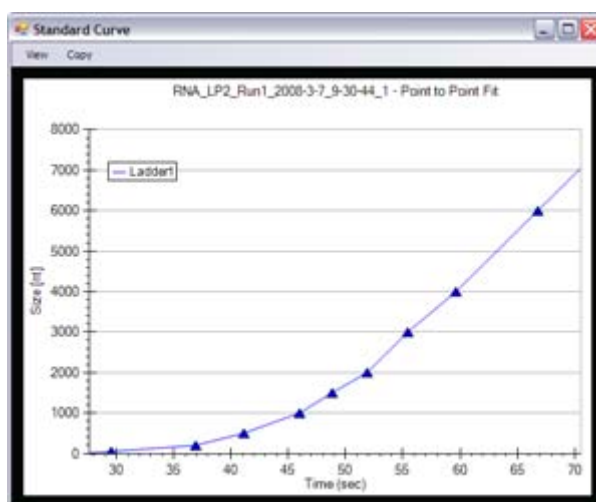

Figure 12. Standard Curve - RNA
- 5 The ladder is analyzed (see “Ladder Analysis” on page 257) and a standard curve of migration time versus RNA size is plotted from the RNA ladder by interpolation between individual RNA fragment size/migration points. The standard curve derived from the data of the ladder well should resemble Figure 12.